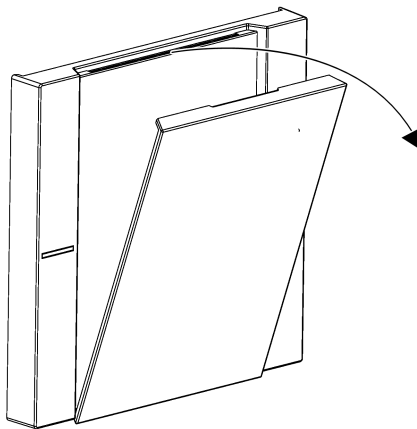

Figure 10: Remove the labelling field cover
- Pull on one side at the notch in the cover of the labelling field to separate from the rocker (Figure 10).